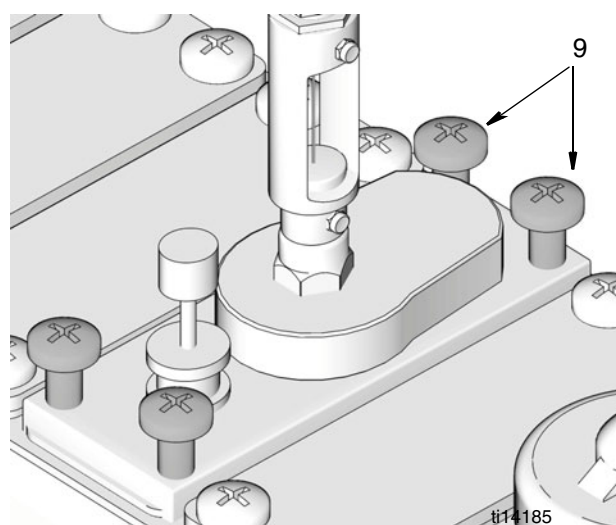

FIG. 3
4. Remove fasteners (9) from pump (FIG. 3).